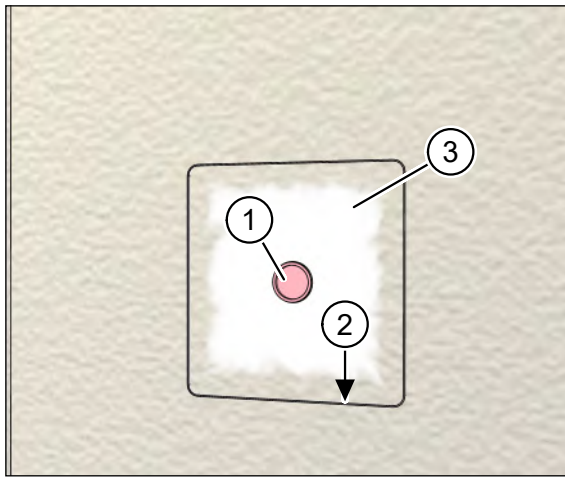

Fig. 26: Installation kit plastered on the inside
- ▶ Remove the signal cover (item 1 in Fig. 26).
- ▶ Use a blade to score the plaster on the inside of the plastering trim (item 2 in Fig. 26).
- ▶ Carefully remove the plaster cover (item 3 in Fig. 26) and the cardboard insert behind it.